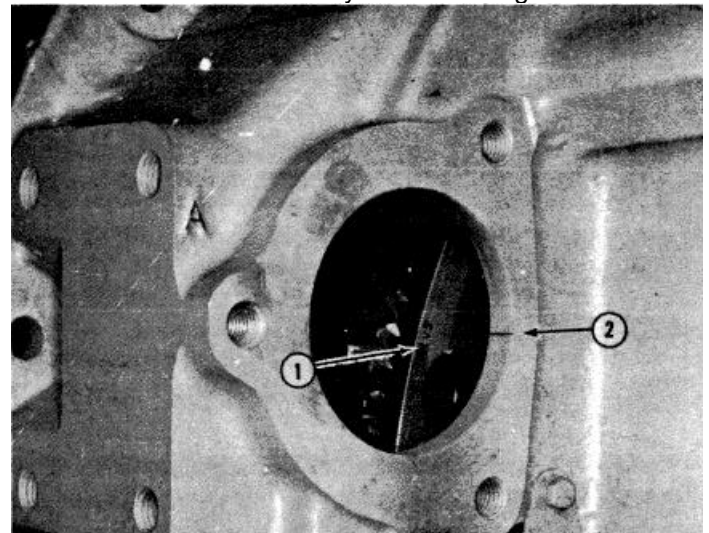

Fig. 2-60, (K21918). Valve set marks on right bank flywheel and housing - KT(A)-2300
2. When barring the engine from the right bank at the flywheel housing "A" VS timing marks on the flywheel, (1, Fig. 2-60) must align with the scribe mark (2) when viewed through the opening marked "A" on the flywheel housing.